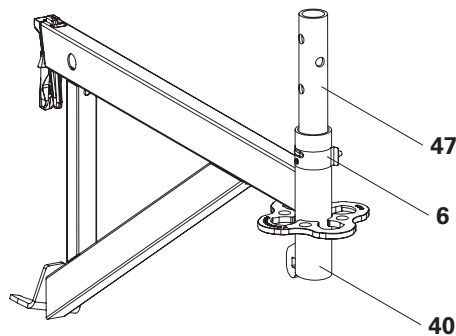

Fig. A6.02
1. Fit Connector ULT 32 (47) into Console Bracket UCM 75 (40) with locking pin \varnothing 48/57 (6). (Fig. A6.02)